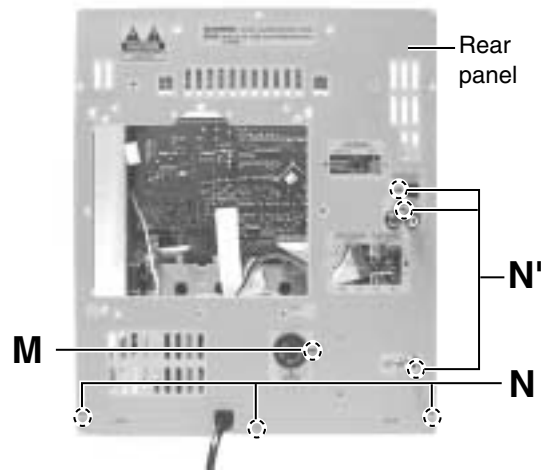

Fig.14
■ Removing the rear panel (See Fig.14)